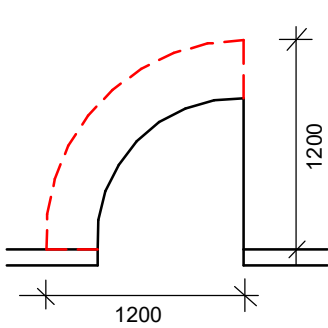

FIG. 10.4.2.
- c) be readily removable from outside of compartment, unless there is a clear space of at least 1.2m, measured in accordance with figure 10.4.2, between the closet pan within the sanitary compartment and the doorway.
NCC 2022 figure 10.4.2